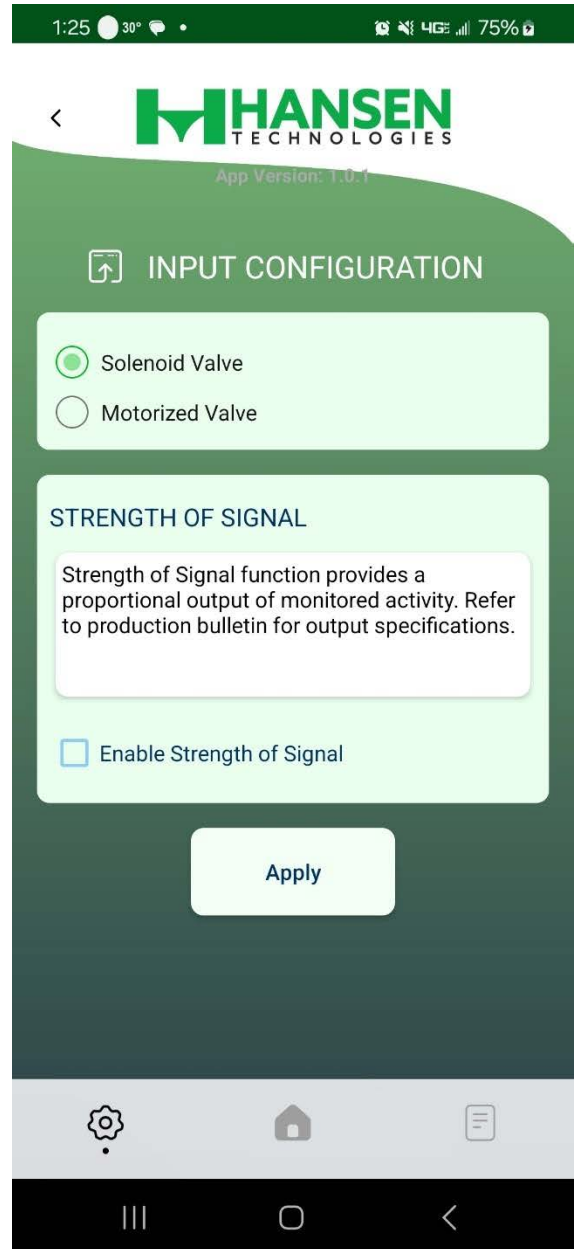

Figure 29
6. Select “Solenoid Valve” and then press “Apply” to save all the settings as shown in figure 29.